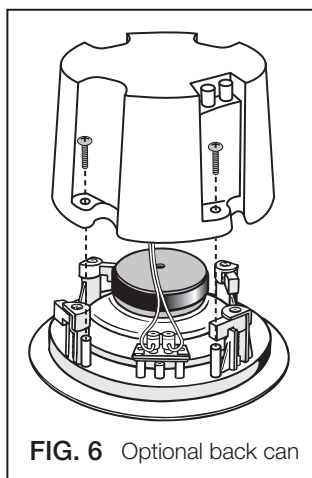

FIG. 6 Optional back can
**NOTE: (See FIG 6 on the back) If you plan to use the optional back can enclosure, you need to attach it now (refer to back can manual for installation instructions).**